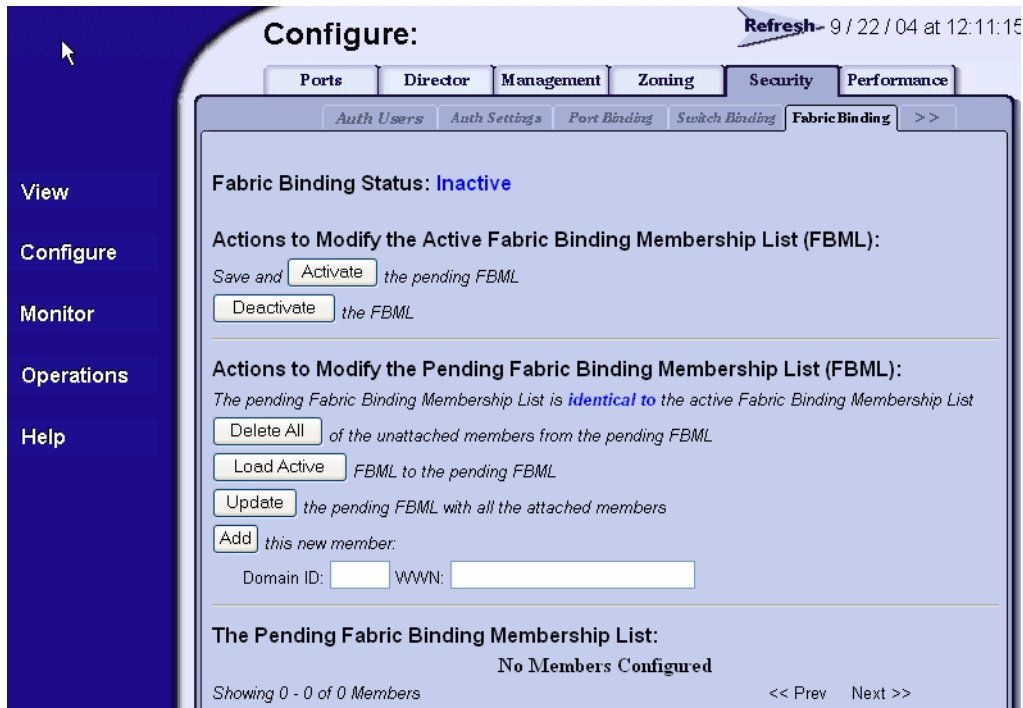

Figure 2-18 Configure Panel (Security Page with Fabric Binding Tab)
1. At the *Configure* panel, click the *Fabric Binding* tab. The *Security* page displays with the *Fabric Binding* tab selected (Figure 2-18).